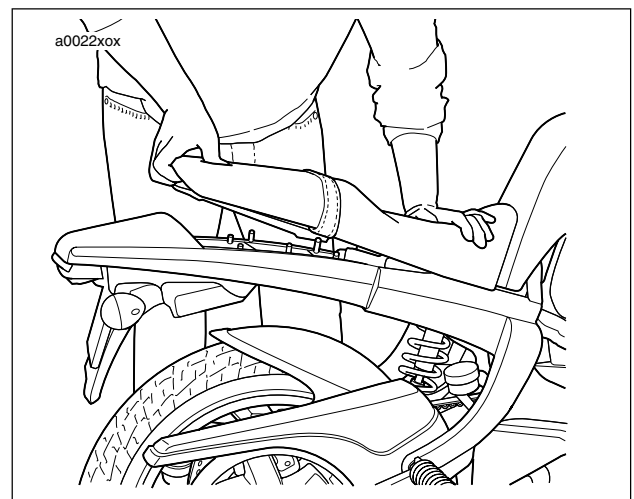

Figure 2-108. Seat Installation
2. See Figure 2-108. Ensure seat is upright. Grasp the rear section of the seat with one hand and grasp the front section of the seat with the other hand.